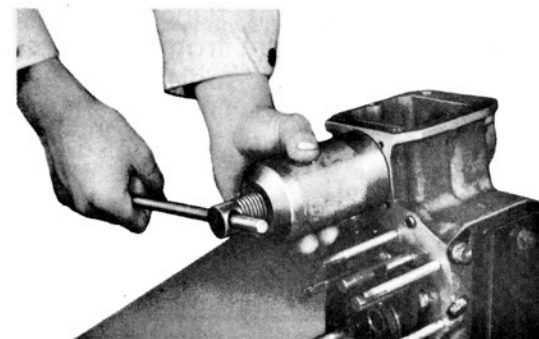

Fig. 3-8.
11) With the aid of the special tool (main-shaft puller-09922-65122) pull out the transfer gear input shaft as shown in the Fig. 3-8.